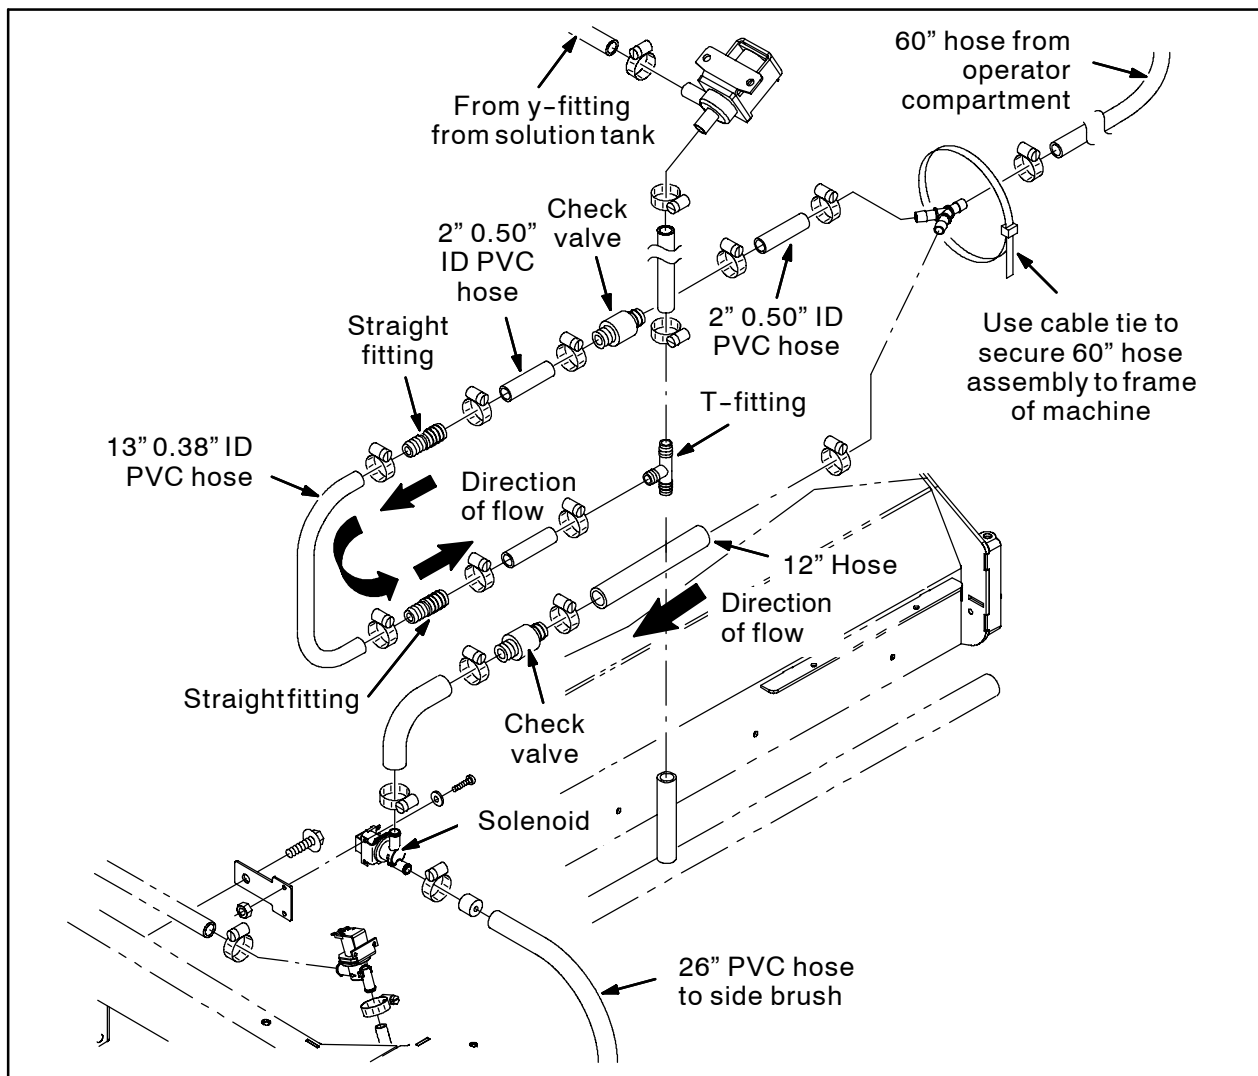

FIG. 2
6. Assemble the check valve, straight fittings, 13" hose, and 2" hoses as shown in Fig. 2. Note the direction of flow.
8. Cut the bent hose 12" from the longer end of the hose. Refer to Fig. 2.
9. Use two hose clamps to install a check valve between the two sections of hose cut in the previous step. Note the direction of flow. Refer to Fig. 2.
10. Use a hose clamp to connect the trimmed hose to the solenoid. Refer to Fig. 2.
11. Use a hose clamp to connect the other end of the trimmed hose to the y-fitting connected to the 60" PVC hose from the operator compartment. Refer to Fig. 2.
12. Use a hose clamp to connect a 26" PVC hose to the solenoid. Refer to Fig. 2.